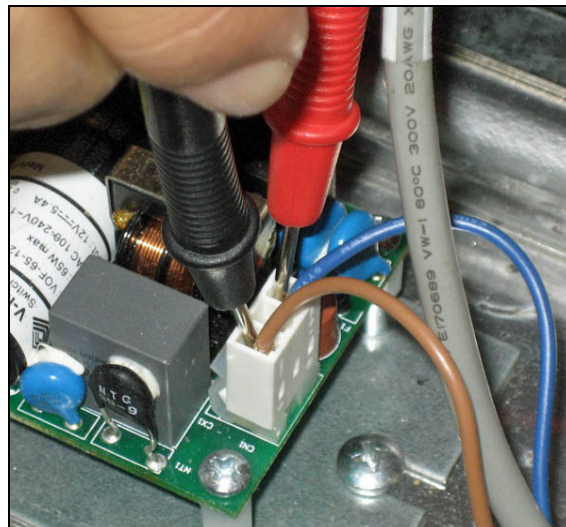

Fig. 3
3. Set the multi-meter to read AC voltage. Insert the leads into connector of the brown and blue wires (Fig. 3). Be sure the leads are in contact with the pins inside the connector housing. There should be 120 VAC (or 220 VAC) coming into the board.